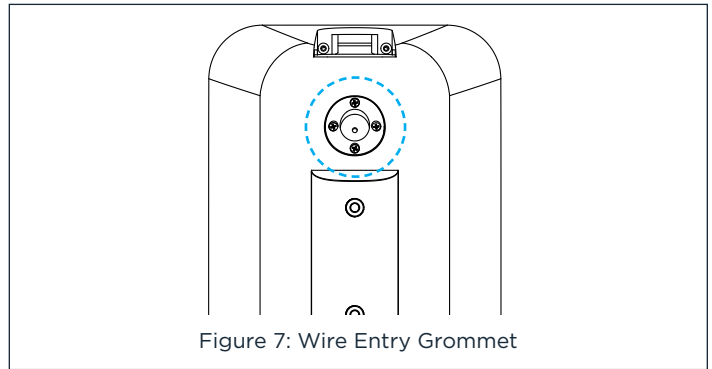

Figure 7: Wire Entry Grommet
4. Feed the speaker wires from the bracket into the wire entry grommet on the back of the speaker, through the wire tunnel and out the opening on the speaker's front panel (see Figure 7).